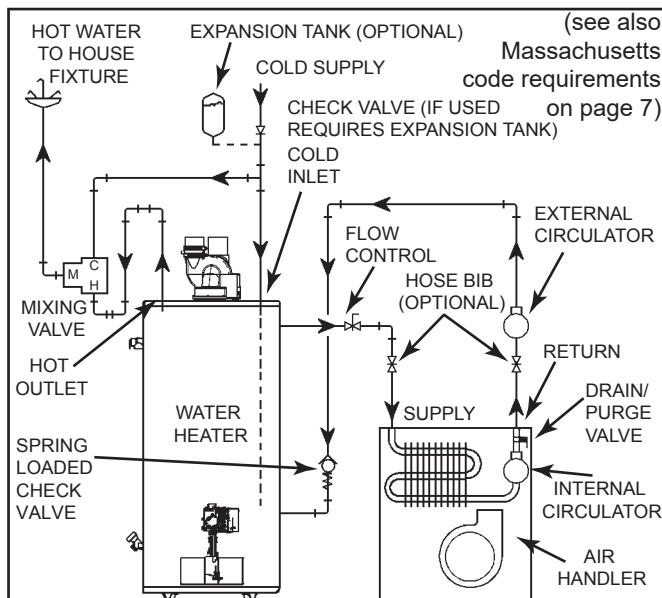
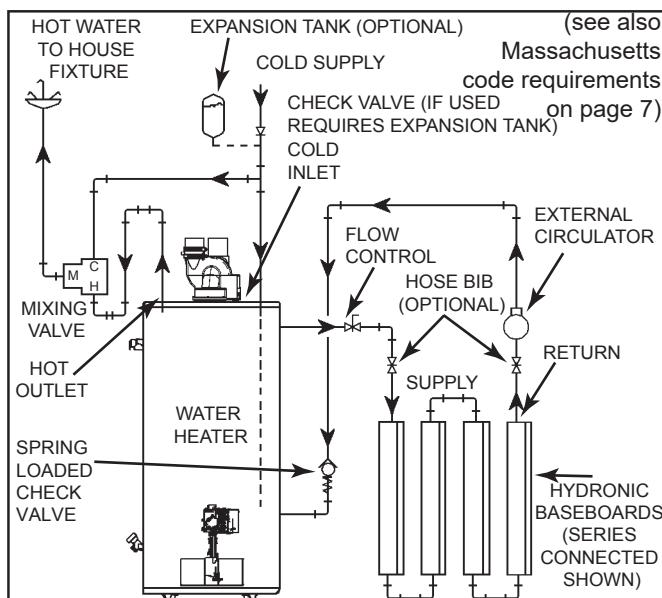

Figure 20.
Figure 21.
8. "Combo" Heating Systems require higher water temperatures than other applications. When the system is used to supply water for Combo Heating applications, a means, such as Thermostatic Mixing Valves (see Figure 8) at each point-of-use, must be installed to temper the water in order to reduce scald hazard potential (see Figure 20 and Figure 21).
- A. A fan coil/air handler (Figure 20).
- B. A hydronic baseboard (finned tube) loop/In floor heating (Figure 21).